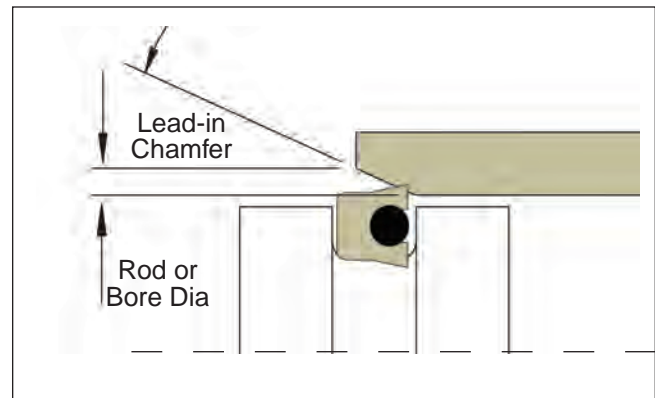

Figure 2-16. Seal installation lead-in chamfer
4. Lead-in Chamfer. A generous lead-in chamfer will act as a guide to aid in seal installation. With the proper lead-in chamfer, the seals can be installed without lip damage. Refer to Figure 2-16 below and Table 2-6 on page 2-8 for proper lead-in chamfer dimensions.